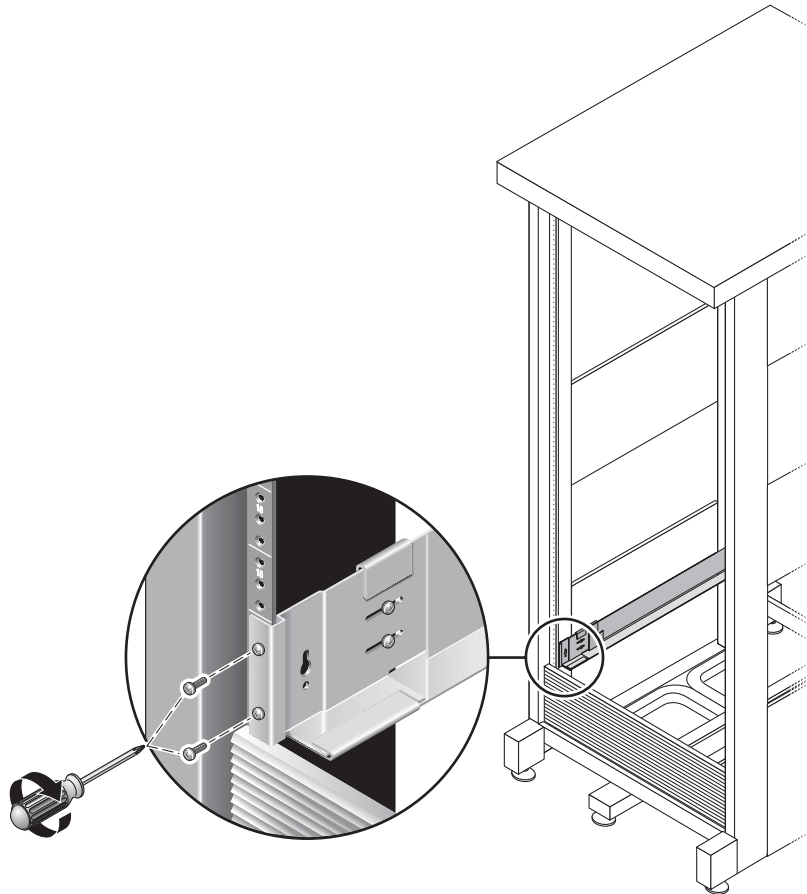

FIGURE 2-11 Securing the Right Rail to the Back of the Cabinet
7. Using the No. 3 Phillips screwdriver, insert and tighten the M6 screws on each side at the back of the rail (FIGURE 2-11).